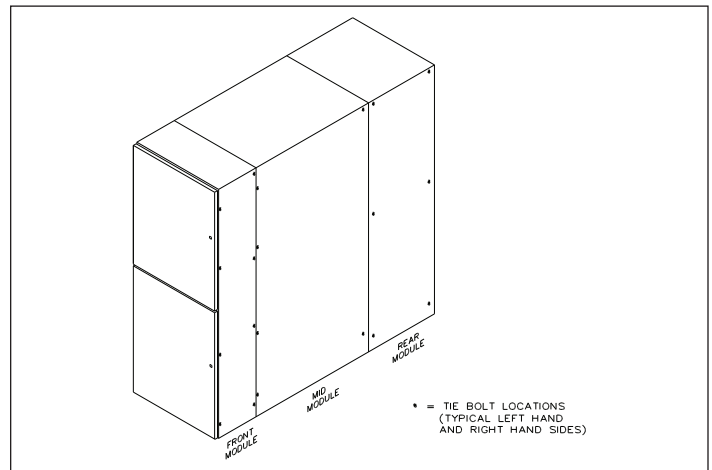

Figure 11. General Tie Bolt Locations for 5 kV through 27 kV Structures. Refer to Operation IB for Locations.
5. Bolt the groups together through the tie bolt holes. The tie bolts should be inserted into the tie bolt holes and should be loosely tighten, **ONLY**. Refer to Figures 11 and 12 for typical tie bolt locations.
- Bolt the groups together through the tie bolt holes. The tie bolts should be inserted into the tie bolt holes and should be loosely tighten, ONLY. Refer to Figures 11 and 12 for typical tie bolt locations.
6. Bolt the groups together through the tie bolt holes. The tie bolts should be inserted into the tie bolt holes and should be loosely tighten, ONLY. Refer to Figures 11 and 12 for typical tie bolt locations.